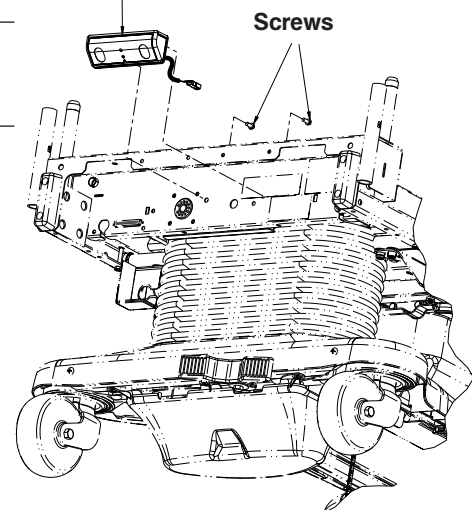

Figure 4
7. Using a 1/4" ratchet and 5/16" socket, remove the two screws securing the IR module to the litter frame shown in Figure 4.